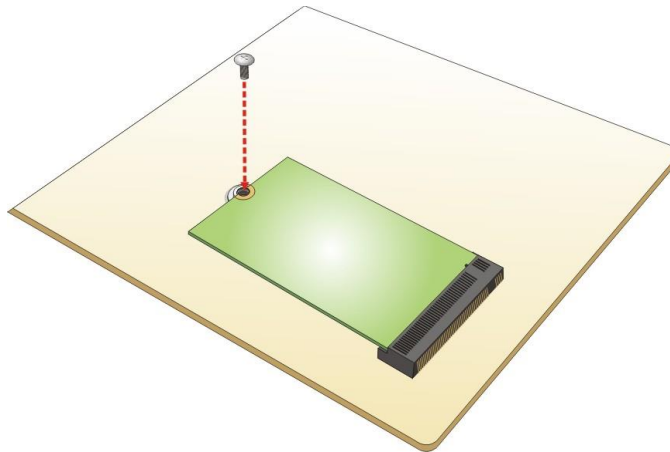

Figure 4-10: Securing the M.2 Module
- Step 4:** Secure the M.2 module with the previously removed retention screw (**Figure 4-10**).